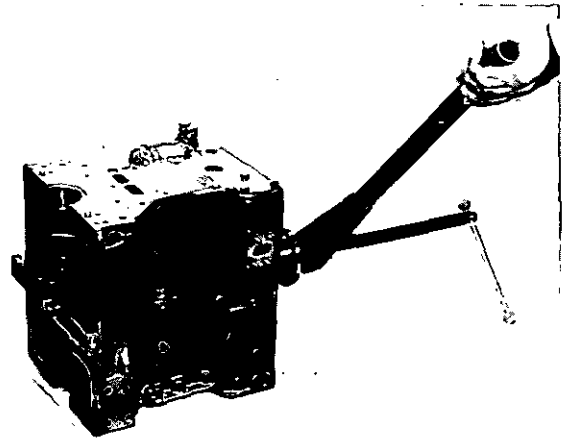

Fig. E.2
2. Press or draw in new liners (Fig. E.2) using a suitable adaptor ensuring that flanges at top of liners do not foul counter-bore at top of parent bore thus causing distortion at top of internal diameter of liner.